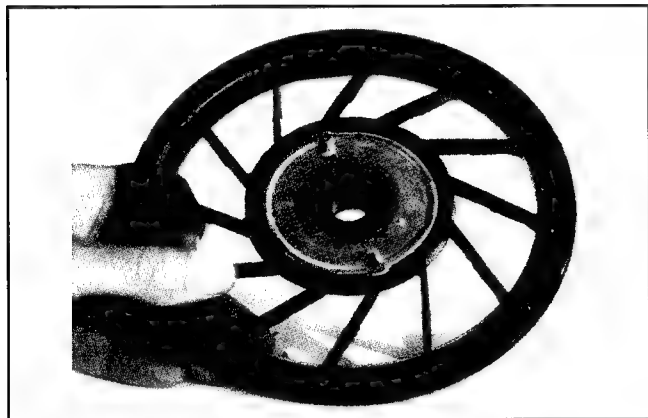

Figure 7-8. Position of Spring and Keeper in Pulley.
8. Note the position of the spring and keeper assembly in the pulley. See Figure 7-8.